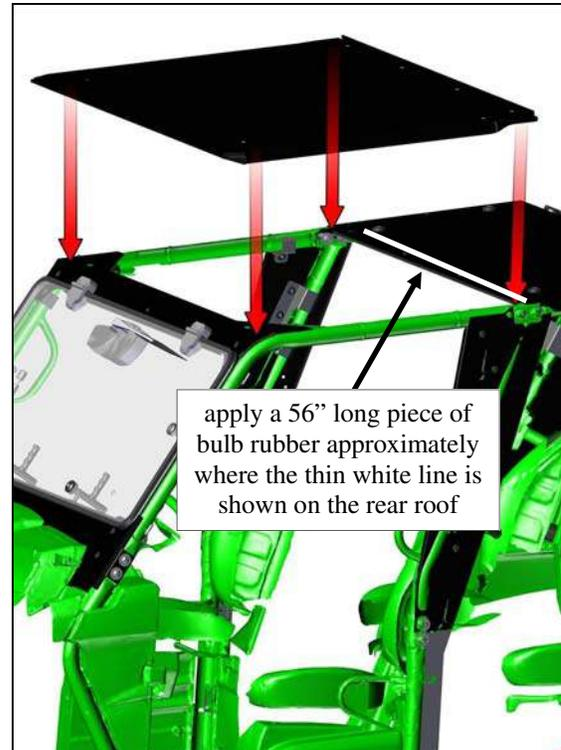

Fig. 5.4a
5.4 Read this entire step first before taking action. See figures 5.4a, b, and c. Once the rear roof is in place, temporarily place the front roof in place and mark where the roofs overlap. Apply the supplied Arch PSA bulb rubber (.20" wide x .15" tall) to the top, front surface of the rear roof so that it is barely underneath the back edge of the front roof. The roofs overlap a lot, but it is suggested to keep the rubber seal as far to the rear of the vehicle as possible and still have it underneath the front roof. Note: apply the pressure sensitive adhesive bulb rubber to a clean, dry surface at room temperature for best adhesion.